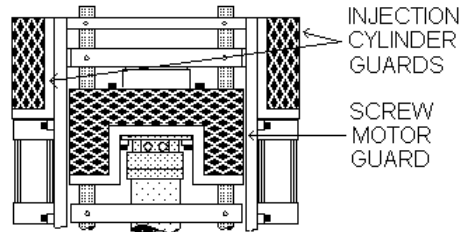

FIG. 1
- 1). Remove INJECTION CYLINDER and SCREW MOTOR GUARDS. Fig. 1
- 1). Remove NOZZLE ASSEMBLY and spring. Fig. 1 Refer to CLEANING THE NOZZLE for more details.
- 2). Unplug bottom Heater band and remove bottom THERMOCOUPLE. Fig. 1
- 3). Remove END CAP (held by 6 Screws). Fig. 1
- 2). Remove NOZZLE ASSEMBLY and spring. Fig. 1
- 3). Unplug bottom Heater band and remove bottom THERMOCOUPLE. Fig. 1
- 4). Remove end cap (held by 6 Screws). Fig. 1